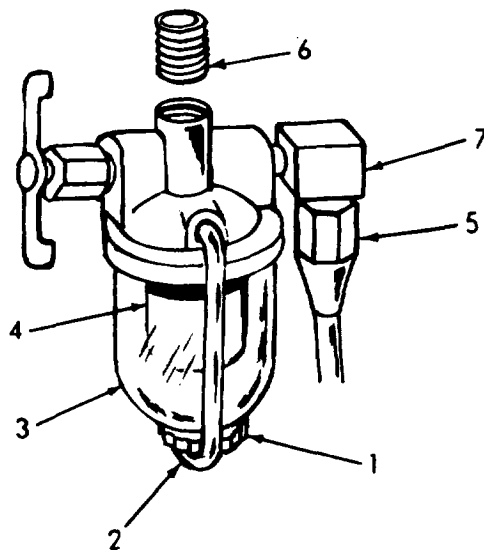

Figure 4-2. Fuel line and filter removal.
(1) Remove fuel tank as per 4-2.1.
(2) Refer to figure 4-2. Loosen finger nut (1) on yoke (2) of fuel filter. Swing yoke upward and remove fuel bowl (3) and filter (4).
(3) Disconnect fuel line (5) to engine. Disconnect fuel line (6) to fuel tank.
(4) Remove elbow (7).
Using figure 4-2 repeat the removal procedure in reverse sequence.